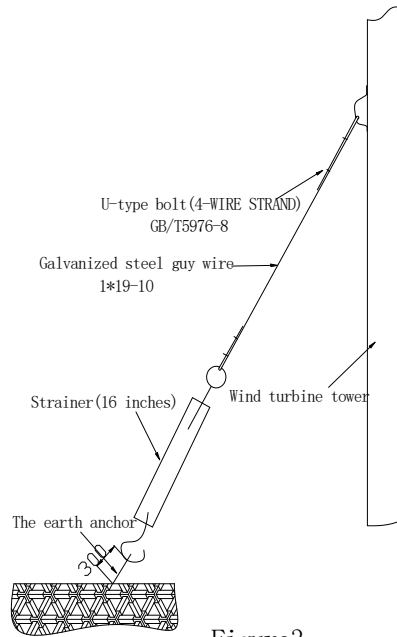

Figure3
2. The installation sequence of the wind turbines can follow the steps as illustrated in figure3.
- 2-3. After the flange bolt (9) is mounted on the flap gasket (10), plug it in the correspondent jacks of the flange base with the bolt's head being up. Set the bolt silk into the elastic washer and then use a spanner to tighten the nut with the flange bolts silk. Similarly, plug other bolts, flat gasket, elastic washer and nuts in the corresponding jacks. Screw down four nuts. Please refer to table 2 about the efforts needed to tighten up them.
3. The installation of the wind wheel blades: instal the diplopore of the wind wheel blades (6) onto the groove of the wind wheel hub(5). You shall match them perfectly. Otherwise, you can turn one blade back and then do the installation work. Please penetrate the stainless flange screw(13) into the pore from the front, then tighten up the anti-slack nut(14) (attention: the anti-slak nut is disposable, so it can only be screwed, but not be loosened). The operation on the other baldes is similar. Please refer to table2 about the efforts needed on them.
5. The installation of the fairing: the fit between the fairing(8) and the wind wheel hub(5) belongs to the clasp. The three gaps of the fairing are for the three blades, thus use your hands to clap the fairing pyramid so as to help them get into the seams of the wind wheel hub.
Figure 3 wind turbine decomposition